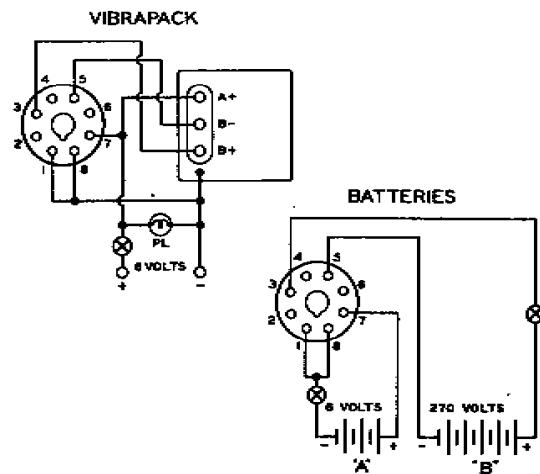

Figure 9. Octal plug wiring diagram
2. Wire an octal plug, as shown in Fig. 9, and plug it into socket SO-1. Use #19 (AWG) wire leads for the 270 volt "B" supply connections to pins #3 and #5, and #12 (AWG) wire leads for the 6 volt battery connections to pins #1, #7, and #8. **Caution:** Check the wiring carefully before connecting to the battery supply. The chart below lists the current voltage data.